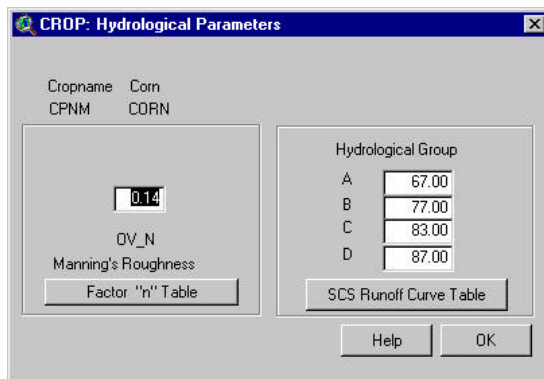

Figure 14.79
- f. The CROP: Hydrological Parameters dialog box is displayed when data for a new urban land type is saved (Figure 14.79)